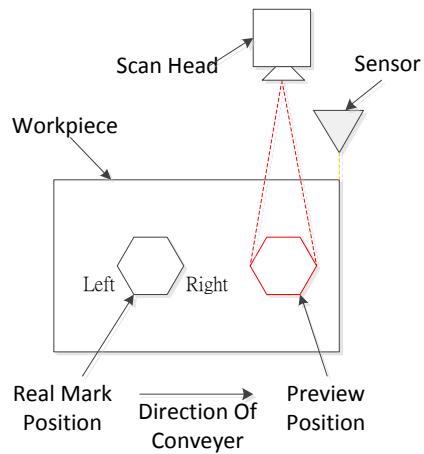
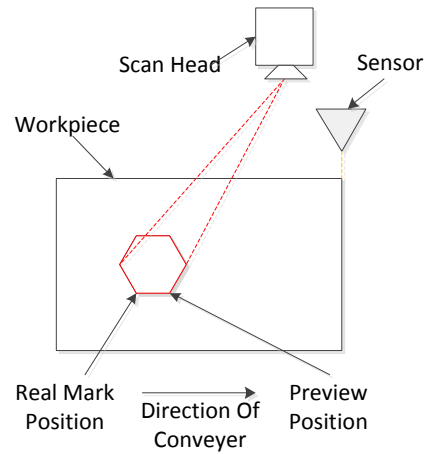

Fig. 1.1.18 Different
Fig. 1.1.19 Same Position
When using “Mark On Fly” function, users will find that the preview mark position and the real marking position are not the same, see Fig.1.1.18. This is because there will have a tiny delay time between the sensor inducts the work piece and the laser starts to mark. This delay time and the speed of conveyer will cause this status. As a result, users can fix this status by modifying “Start Signal Lag” and make the position of preview and real marking be the same, see Fig.1.1.19.
- III. The arrangement of Mark On Fly device, working-piece and sensor must be placed such as Fig.1.1.18.
Take Fig.1.1.18 for example. Suppose users set this value as 100. If the preview result located on the right side of real mark position, then increase the setting value. On the contrary, decrease the setting value.